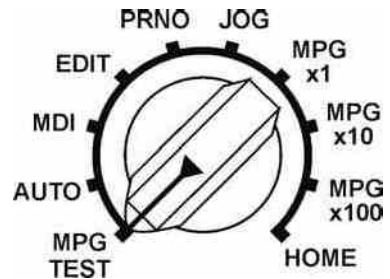

Fig. 2-3
- **Working Count and Time Indication** (as per Fig. 2-3):
- (1) **Set Count:** Set the limit value of the working count (to set under Parameter screen). When set value equals to 0, the maximum value of the working count will be limitless.
- (2) **Working Count:** When running to M15, an increment of “1” will be added. If manual reset is required, under Auto Display screen, quickly press “0” Key for twice and it will be reset to zero. Further, the user can also run “M16 Command” to clear the working count.
- (3) The program will stop automatically when the working count reaches the Set Count, therefore M15 Command should be located at the rearmost end of the working process. Upon reaching the working count, the screen will indicate the working count up message. At this time, the customer can restart the program using the Reset key or pressing the Start key directly to restart the program and reset the worked count to zero.
- (4) **Working Time:** Display the duration (second) of the program currently executed. When restarting the program after the program is interrupted or ended, it will reset to zero automatically.
- (5) **Calendar:** As per Fig. 2-3, the figures displayed under the “Working Time” represent the current time. The time can be set under “Software Version” screen.